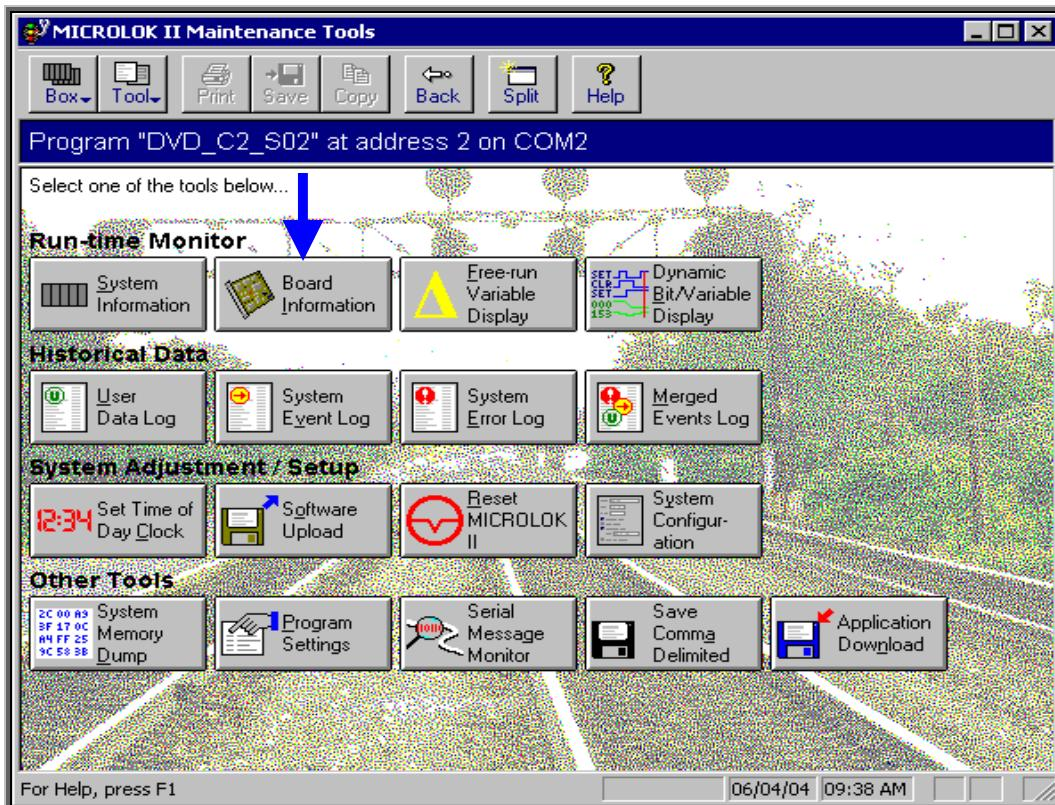

Figure-5.4.1
- ❖ To view the status of a Microlok II printed circuit board or serial communication link, click on the “**Board Information**” button on the Maintenance Tools main menu (Figure-5.4.1).